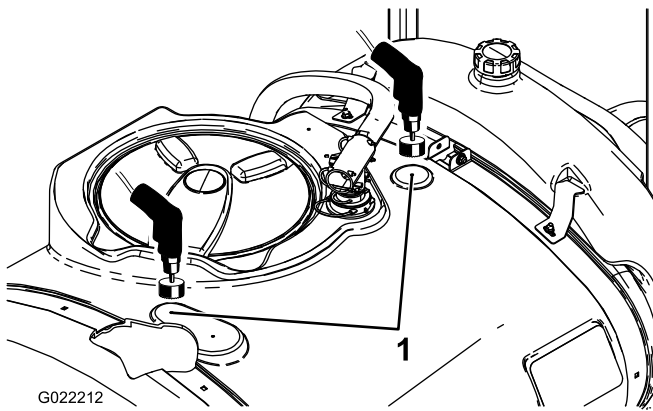

Figure 6
2. Locate the two drill marks on the main tank (Figure 6).